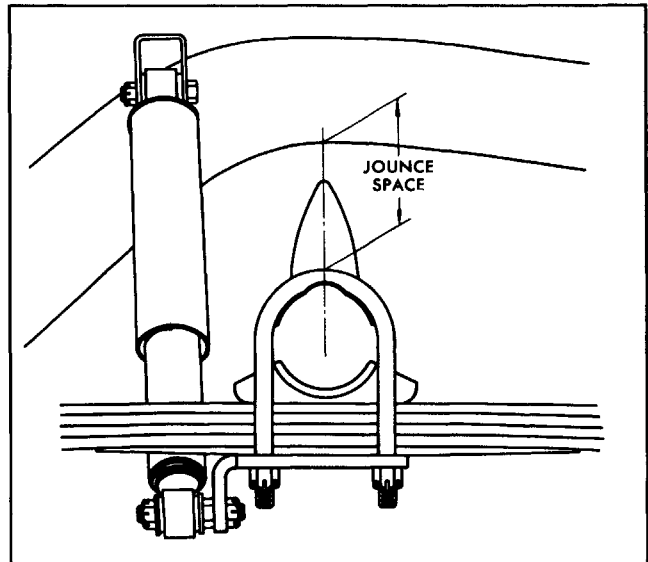

Fig. 4-61 Rear Suspension Jounce Space Measurement
**NOTE:** When rear springs seem to have sagged, they may be checked by measuring as shown in Fig. 4-61. This measurement should be the same on both sides and indicate no spring sag when compared to a standard car. (Make sure cars being compared have similar loads, i.e., load in trunk, heavy accessories, mud, etc.)